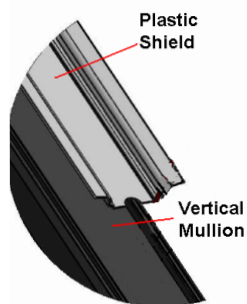

Figure 1
- b Place the extrusion notch toward the bottom of the Mullion. Refer to Figure 1.